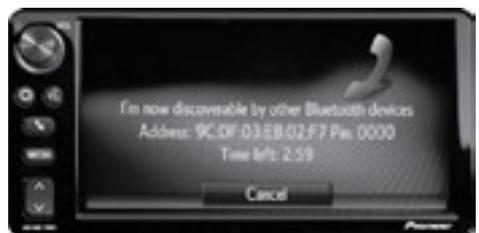

Figure 4: With Navigation¹
3. Touch the **“Make system discoverable”*** button. [See Figure 4]